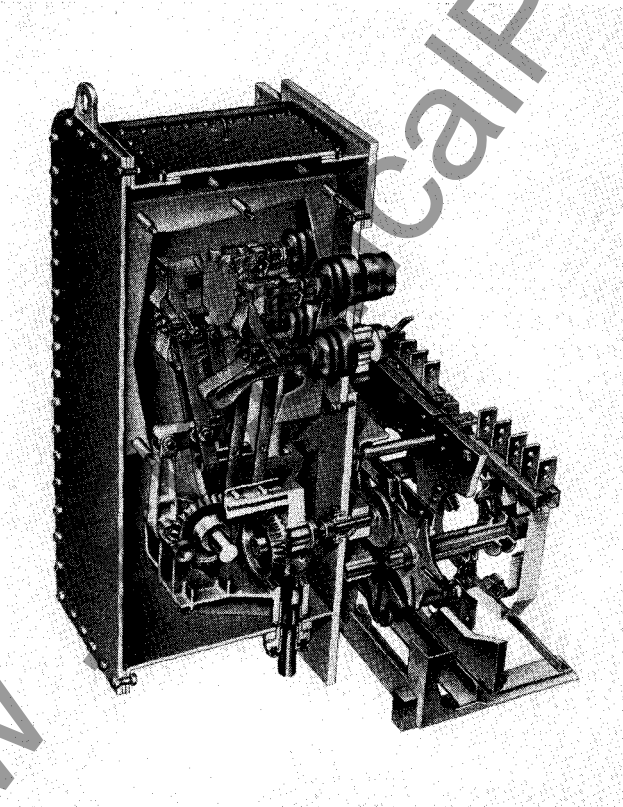
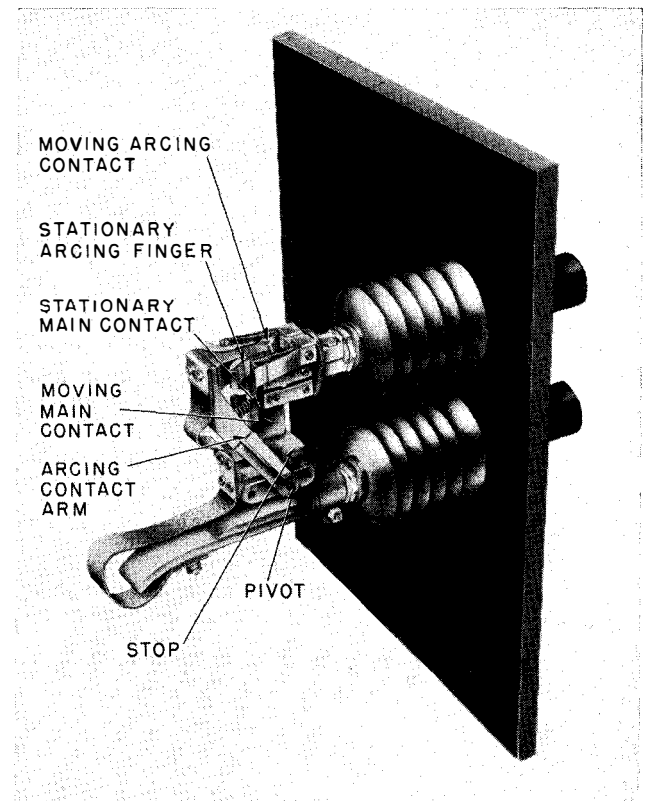
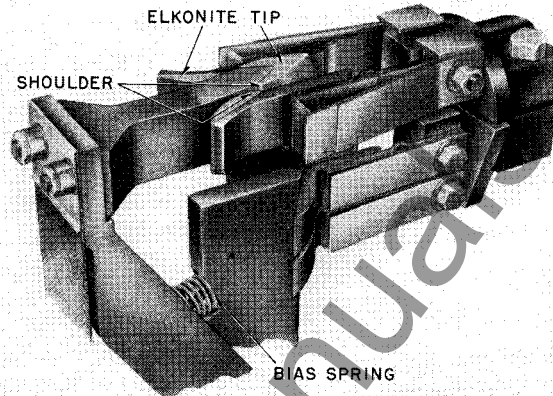
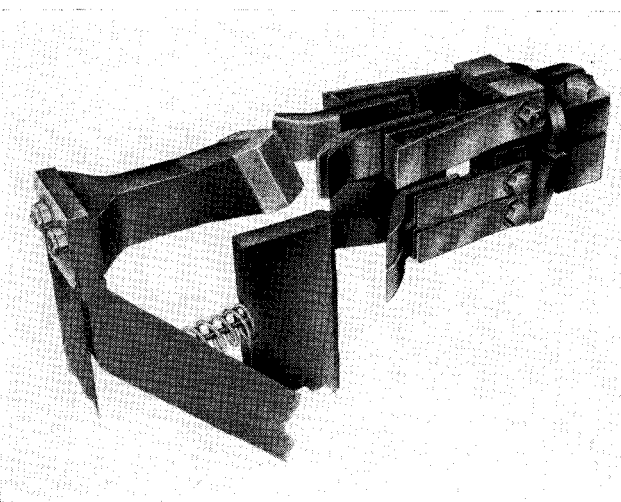

FIG. 12. Cutaway View of UTR₁ Tap Changer, Showing One Switch Open and One Switch Closed.
FIG. 13. Transfer Switch, Closed Position.
FIG. 14. Main Contact Partially Withdrawn—Arcing Contact Held by Shoulders.
FIG. 16. Arcing Contact Free of Shoulders, and Sprung Clear.
The improved design moving arcing contact for the Type UTR tap changer can best be seen in Fig. 16. The improvement consists of brazing on the arcing tip at an angle to the main axis of the contact. Previous contacts had the tip perpendicular to the axis of the arcing contact and parallel to the edge of the current carrying contact below it.
The action of this contact is shown by the sequence of Fig. 13 to Fig. 16. Fig. 12 is a cut-away view of the entire Type UTR tap changer showing one switch closed and one open. It is apparent from Fig. 12 that the main current contact is moved by the long Micarta arms in a path almost horizontal. But the cast arm holding the upper or arcing contact is pivoted near the end of the long arms, and moves in a short arc about the main contact support.
Fig. 13 shows the contacts with the switch in its closed position. As the switch begins to open, the main contact begins to withdraw from its fingers and the arcing contact withdraws within its fingers until the shoulders on the arcing contact mesh with the shoulders on its fingers as shown in Fig. 14.
When the fingers release the moving arcing contact, the spring snaps the moving contact away as shown in Fig. 16. This produces a high parting speed to interrupt efficiently the arc formed, and all arcing takes place on the elkonite tips of the arcing contacts, leaving the copper main contacts clean for carrying load current on operating positions.
The new design contact has its retaining shoulder at an angle to its axis such that the shoulder is vertical when the contact arm is fully pivoted. This means that upon initial withdrawal it meets the shoulders of the stationary contacts at an angle (Fig. 14.) As the withdrawal action continues, the arcing contact, in traveling a shorter arc, swings out so that the stationary shoulder and the moving shoulder become parallel.
2. Another source of insufficient holding action can be unequal engagement of the shoulders by the two fingers. In adjusting a tap changer, it should be moved to the position shown in Fig. 16, and a very careful check made to be sure both fingers are engaging equally at the shoulders. This must be done by "feel" and is fairly sensitive. Any adjustment is made by moving the stationary fingers. The importance of this factor may be seen by realizing that if one shoulder fails to engage even slightly, the retaining effect is greatly reduced.